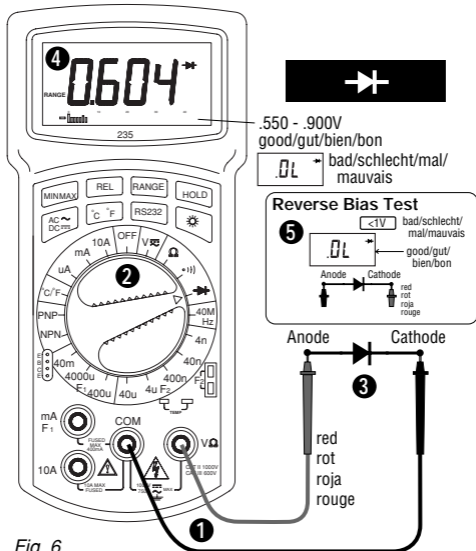

Fig. 6
❶ Turn off any power to the circuit to be measured and discharge any capacitors. Any voltage present during a resistance measurement will cause inaccurate readings. ❷ Connect test leads as shown in figure 6. ❸ Set Function/Range Switch to Ω position. ❹ Connect test leads to circuit being measured. ❺ Read resistance value on Digital Display. Open circuits will be displayed as "I.O.L".
DIODE TEST (See Fig. 6)
D • Dioden- und Transistortest (siehe Fig. 6)
E • Comprobación de diodos y transistores (vea Fig. 6)
F • Test de Diodes et de Transistors (voir Fig. 6)